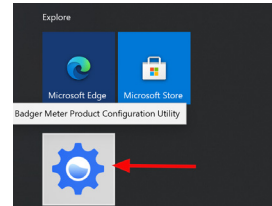

Figure 11: Software shortcut
2. Select **Badger Meter Product Configuration Utility** from the Windows **Start** menu. Alternatively, you can also open PCU by clicking on the shortcut icon that displays in the **Start** menu (Figure 11).